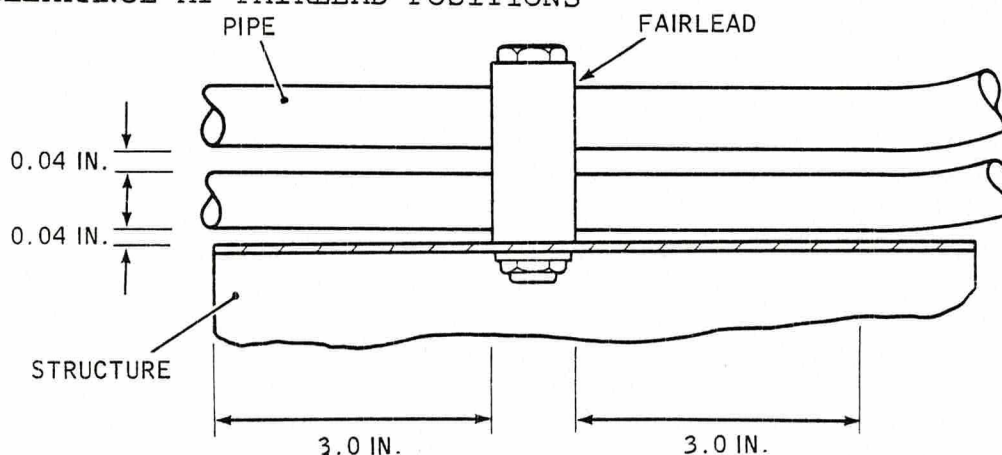

FIGURE 1.
- (a) Sheet 2. Item 2. Figure 1.